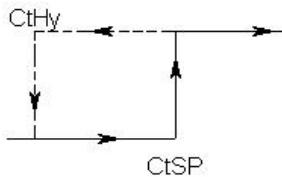

Fig. 3
- * *The function of " Control value " setting, refer to page 12, Fig. 3.*
- * The function of " Control Hysteresis value " setting, refer to page 12, Fig. 3.